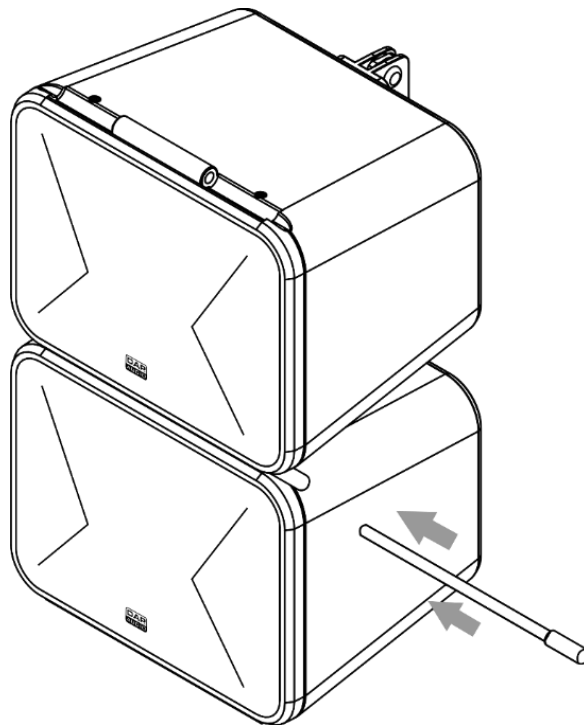
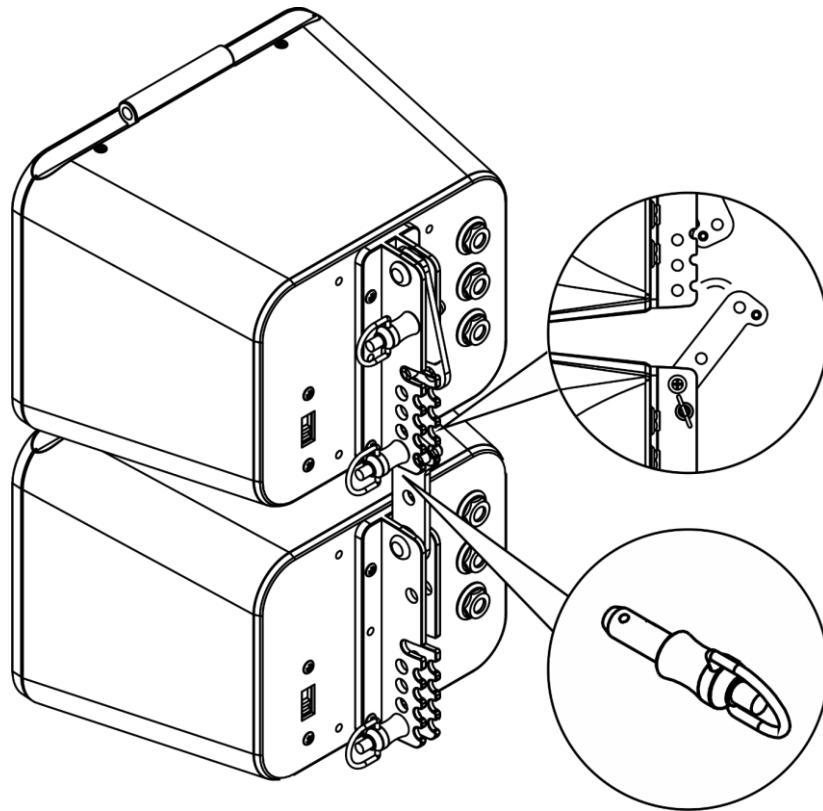

Fig. 04
Fig. 05
- 02) Mount the Xi-3 speakers on the Wall Bracket, from the top downwards, and insert the rigging pins to connect them to each other (fig. 04 and fig. 05).
02) Mount the Xi-3 speakers on the Suspension Bracket, from the top downwards (see fig. 04 and fig. 05).
- 05) Mount more Xi-3 speakers, from the bottom upwards, on the top of the already mounted first Xi-3 speaker (fig. 04 and fig. 05).